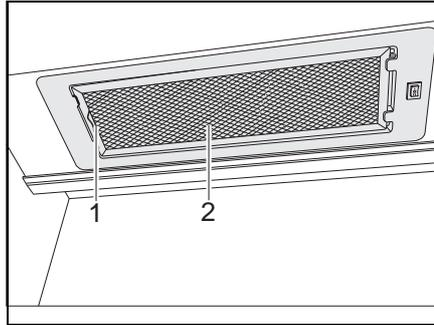

Fig. 166 Extractor hood
- Push the lever (Fig. 166,1) to the inside.
- Remove the filter (Fig. 166,2) downwards.